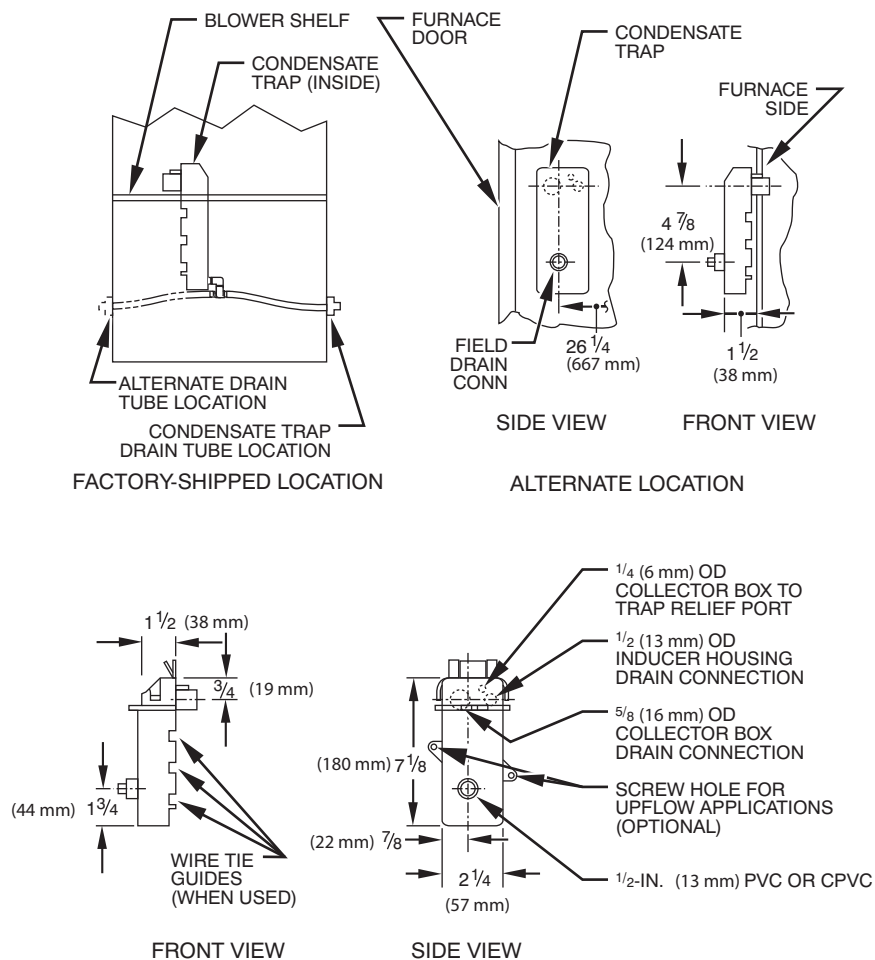
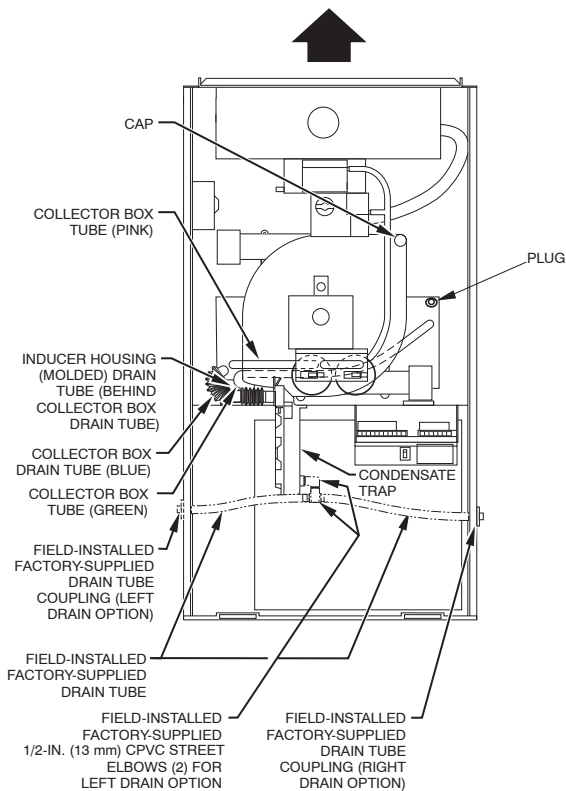

Fig. 6 - Condensate Trap
Fig. 7 - Factory-Shipped Trap Location
Some assembly and modifications are required for condensate trap drainage tubes. (See Fig. 6, 7 and 8.) All drain and pressure tubes are connected as shown in Fig. 7 from the factory. See appropriate application instructions for these procedures.
The condensate trap is factory installed in the blower shelf. A factory-supplied tube is used to extend the condensate trap drain connection to the desired furnace side for field drain attachment. See Condensate Trap Tubing section for drain tube extension details. (See Fig. 6.)
NOTE: See Fig. 7 or review label on main furnace door to confirm location of these tubes.
- j. Cement 2 factory-supplied 1/2-in. street CPVC elbows to rigid drain tube connection on condensate trap. (See Fig. 7.) These elbows must be cemented together and cemented to condensate trap drain connection.
NOTE: See Fig. 7 or 8 or tube routing label on main furnace door to check for proper connections.